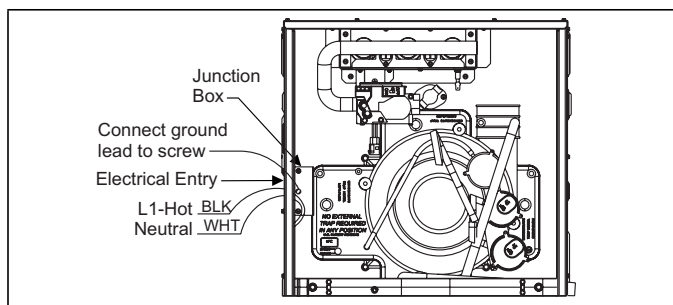

FIGURE 13: Electrical Wiring
- 2. Remove the wiring box cover screws. Route all power wiring through a conduit connector or other proper bushing that is field installed into the unit opening and the junction box. In the junction box there is a black wire, a white wire and a green ground screw. Connect the power supply as shown on the unit's wiring label located on the inside of the blower compartment door, or the wiring schematic in this section. Connect the black wire to L1 (hot) from the power supply. Connect the white wire to neutral. Connect the ground wire (installer-supplied) to the green (equipment ground) screw. An alternate wiring method is to use a field-provided 2" (5.1 cm) x 4" (10.2 cm) box and cover on the outside of the furnace. Route the furnace leads into the box using a protective bushing where the wires pass through the furnace panel. After making the wiring connections replace the wiring box cover and screws. Refer to Figure 13.
- 3. The furnace's control system requires correct polarity of the power supply and a proper ground connection. Refer to Figure 13.